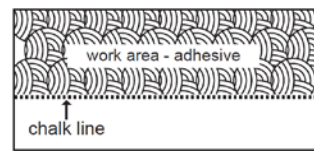

Figure 10a
- When installing pieces, engage the end-joint first, as close to the side (long) tongue and groove as possible, then slide together tightly to engage the side (long) joint (Figure 10a) tongue and groove. To avoid adhesive bleed-through and memory pull-back, avoid, as much as possible, sliding pieces through the adhesive when placing them in position.